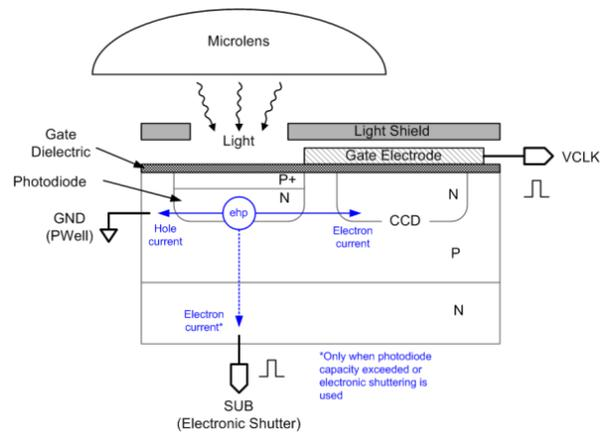

Figure 1. Interline CCD Structure and Operation
While Qp is on, the gate dielectric (see Figure 1) will experience an electric field (E) related to the SUB and VCLK voltages and the gate dielectric thickness (t_{OX}) as shown in Equation 1.